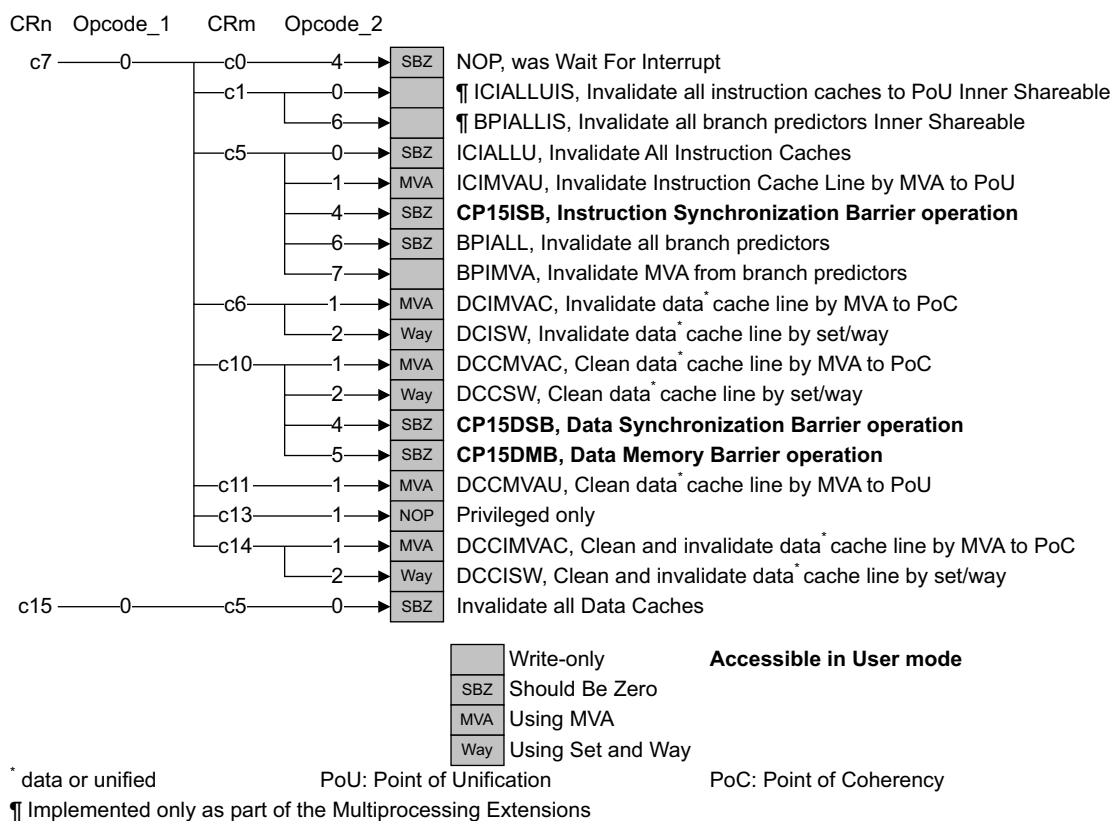

Figure 4-38 Cache operations
Figure 4-38 shows the arrangement of the functions in this group that operate with the MCR and MRC instructions.
The following operations, as Figure 4-38 shows, are implemented as No Operation, NOP, on the processor:
- Writing c7 with a combination of CRm and Opcode_2 not listed in Figure 4-38 on page 4-60 results in an Undefined Instruction exception.